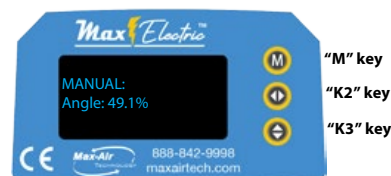

Fig. 3b
5. While in Manual mode, press the K2 key to drive CW (close), and press the K3 key to drive CCW (open). The display will show "MANUAL:" as well as the angular percentage of OPEN. (Fig 3b). Note that travel is allowable only to the extent of EOT (end of travel) settings established during the calibration (ref steps 8~12 below).